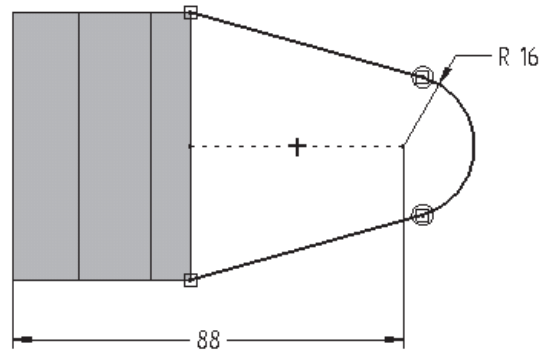

Figure 4-59 Open profile for the second feature
2. Draw the profile for the second feature using various sketching tools and then add the required dimensions and relationships to the profile, as shown in Figure 4-59. Note that you do not need to draw the vertical line on the left to close the sketch. While creating the feature, you can define the side of material addition to complete the feature.